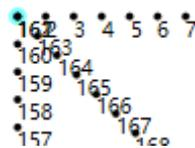

Fig. 5.8.3 Selected Points
② Select the point that needs to be set as the datum point. Taking the first point as an example, the selected point will be displayed in a blue frame. As shown in Fig. 5.8.3.